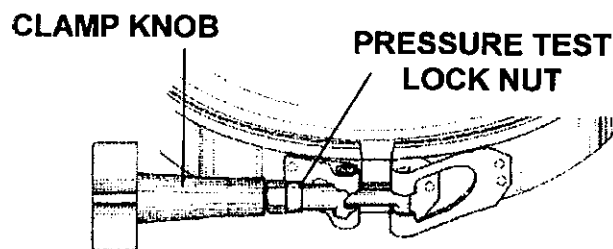

Figure 32-1
2. Remove the clamp knob and then remove the brass pressure test lock nut from the band clamp and discard it. (See *Figure 32-1*)